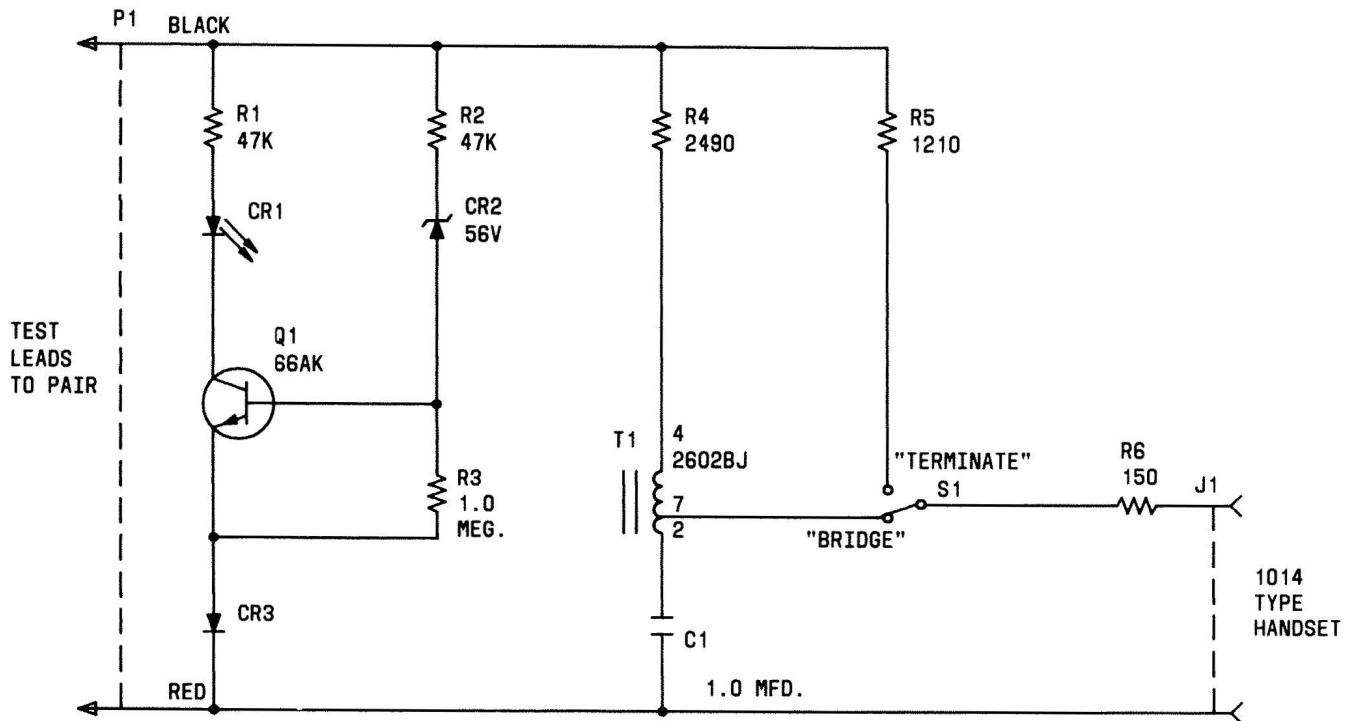

Fig. 7—KS-21940, L1 Handset Adapter Circuit
3.08 The mode marked BRIDGE is used when tests are made by bridging across the output of a regular module, normally connected to an H88 loaded cable pair. The TERMINATE mode is used when the subscriber cable pair is not connected to the central office regular module. A schematic diagram of the adapter is shown in Fig. 7.